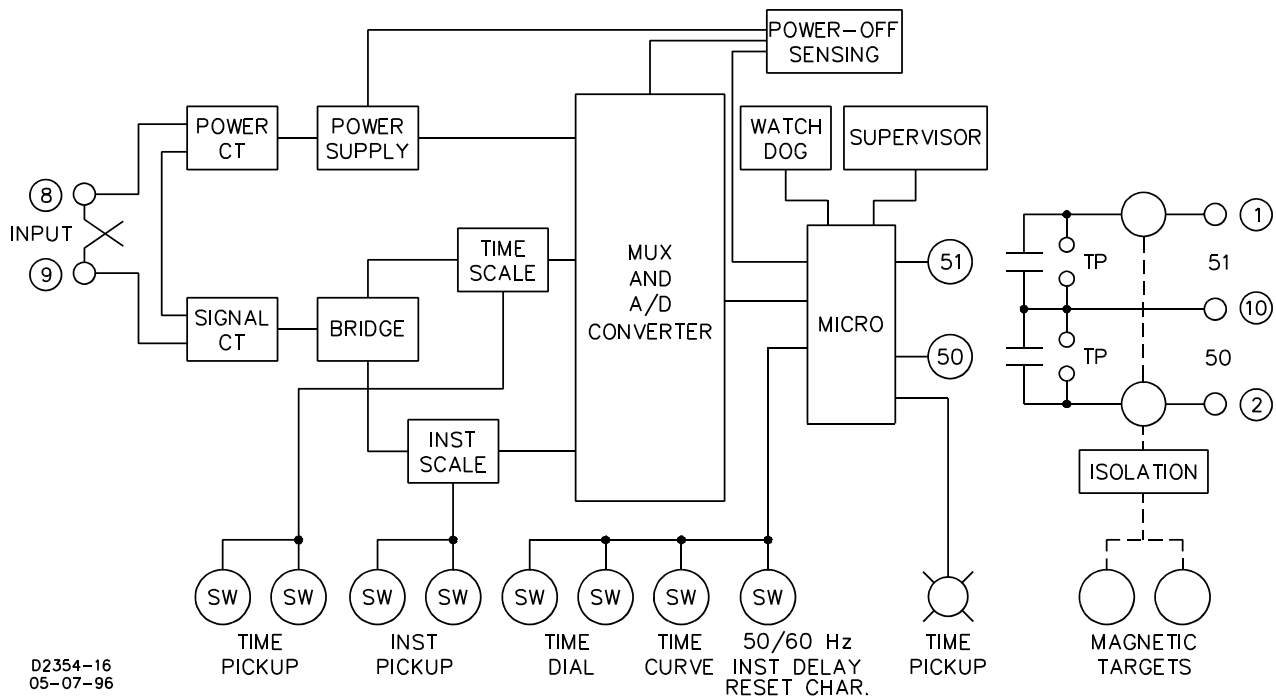

Figure 3-1. Functional Block Diagram
Single phase ac current from system current transformers (CT) is brought into the BE1-50/51B-219 Overcurrent Relay at terminals five and six. Refer to Figure 3-1 to follow the functional description. The input current is applied to internal power and signal CTs.